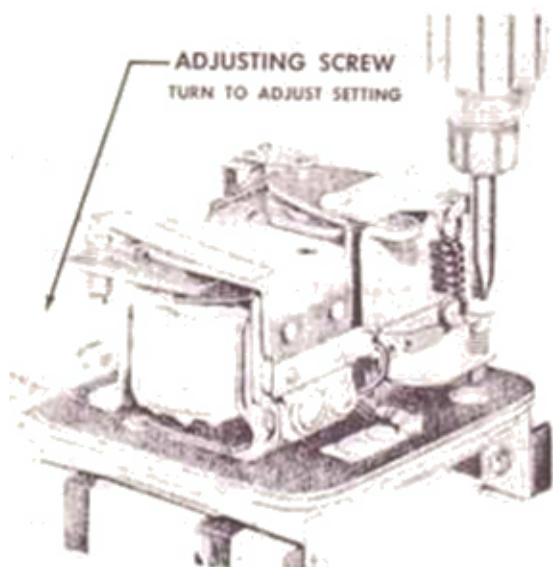

Figure 16—Adjusting voltage setting of current-voltage regulator unit (1118300 and 1118700 series).
**VOLTAGE SETTING** (1118300 and 1118700 Series)—Check voltage setting as described under Regulator Electrical Checks. Adjust voltage setting by turning adjusting screw (Fig. 16). Turn screw clockwise to increase voltage setting and counterclockwise to decrease voltage setting. After each adjustment, set cover in place before checking setting.